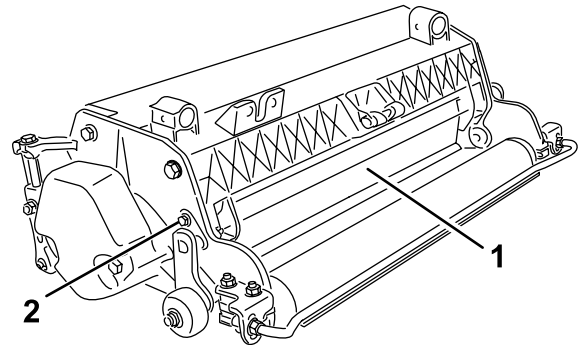

Figure 8
1. Loosen the bolts on the pivot of the grass shield (Figure 8).
2. Rotate the grass shield to the desired setting, and tighten the bolts (Figure 8).